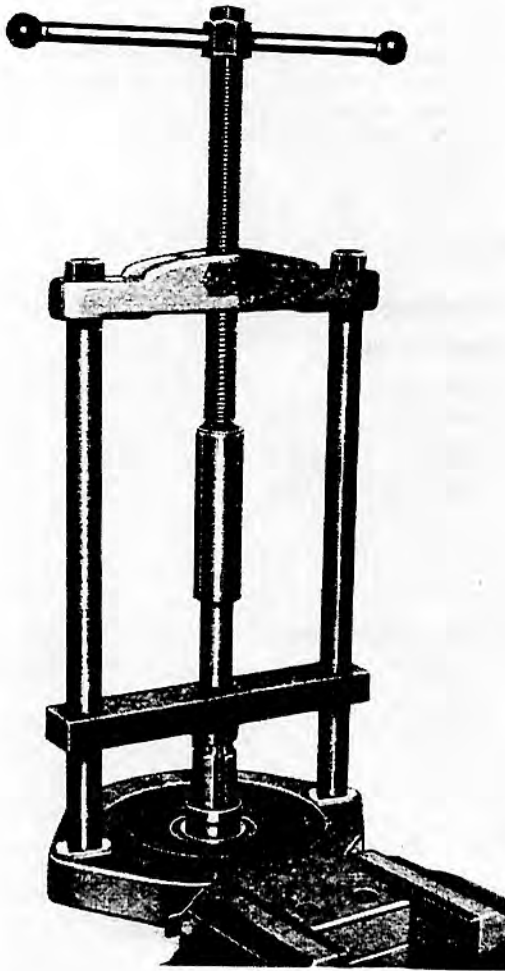

FIGURE 8.
TO REMOVE BALL BEARING (Figure 8 refers)
2. Fit outer circlip to shaft and press shaft through bearing until bearing is in position against circlip as shown in Fig. 8.
NOTE.—Fig. 8, if the circlip is removed, illustrates the position of the shaft and bearing for removal of the bearing.